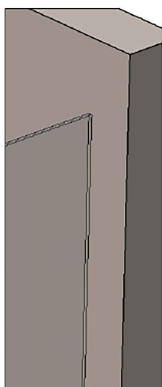
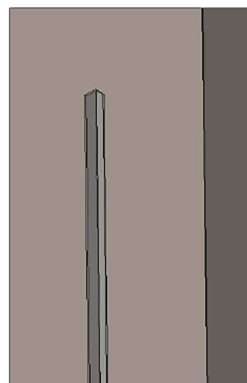

FIGURE 17C
FIGURE 17D
ZV Angle Seal (M) - This is to be placed on handle side of door, **DIRECTLY** to the tile (make sure tile is clean and dry before application). Place door in closed position and lightly mark with pencil in several different locations where the outside edge of glass meets tile (See Figure 17C). Remove red covering (See Figure 17D) and apply seal to tile evenly up and down wall, following pencil marks.